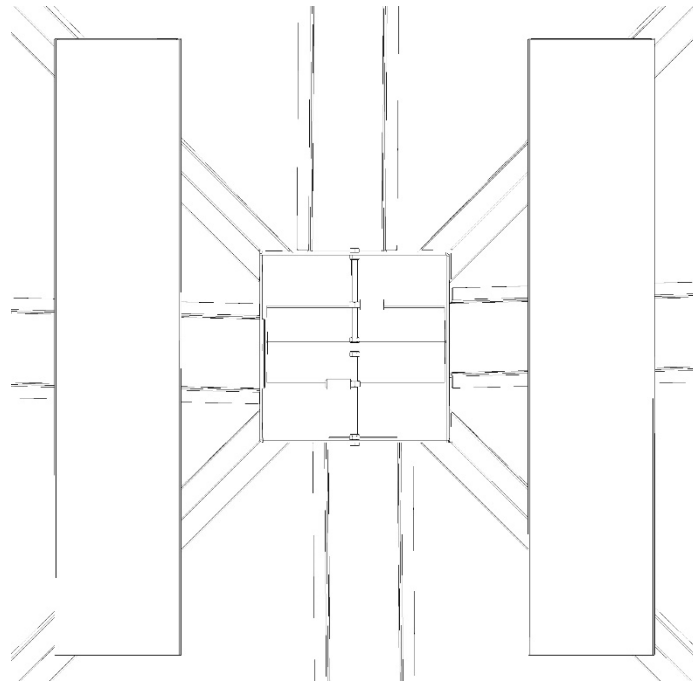

Figure 2
3. Insert bolt through hole on one side with the head of the bolt being on the outside of hopper opening. (See Figure 2).
7. Start pivot rod on flow control flap assembly and turn bolt until pivot rod is halfway on the bolt. (See Figure 2).
9. Repeat steps 3-8 for the other side. The second pivot rod needs to be flipped the opposite direction on other side in order to hold flow control flap assembly correctly. (See Figure 2).